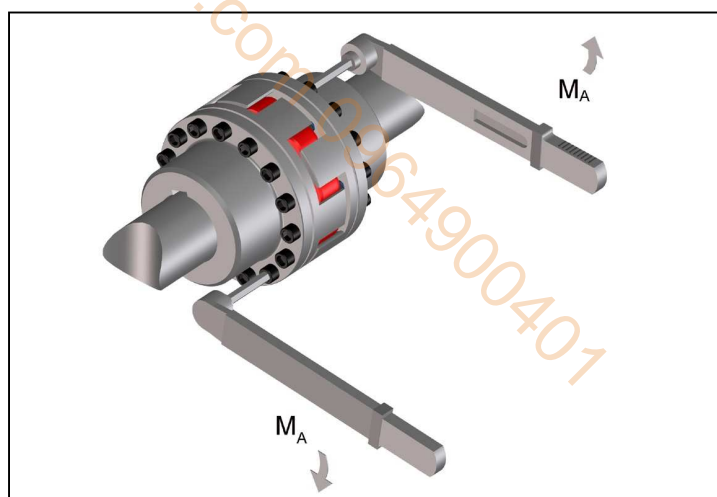

Fig. 6
- Tighten the screws to the tightening torque  $M_A$  specified in table 2 (Fig. 6).